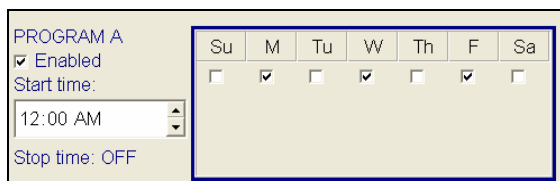

Figure 16.1.9C
7. Check a box for each day of the week that you want the program to irrigate on (Figure 16.1.9C).